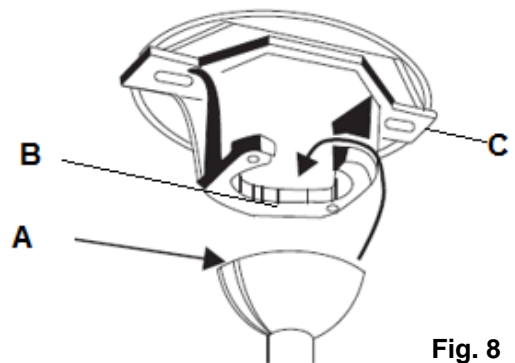

Fig. 8
Lift the fan assembly onto the mounting bracket. Ensure the key slot (A) of the hanger ball is positioned on the key pin (B) of the hanger bracket (C) to prevent the fan from rotating when in operation. **Fig.8**